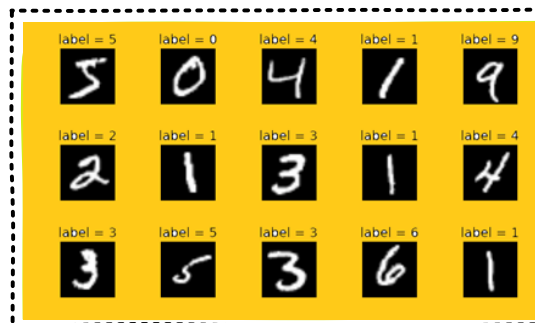

Figure 3. Some example images from the MNIST dataset
**Input Dataset (MNIST)** - In this project, you should implement an MLP network to **classify** a set of images related to the "MNIST" dataset that is widely used for training and testing in the field of machine learning. MNIST dataset includes some black and white images of handwritten digits that are between 0 and 9. Some examples of these images are shown in Figure 3.